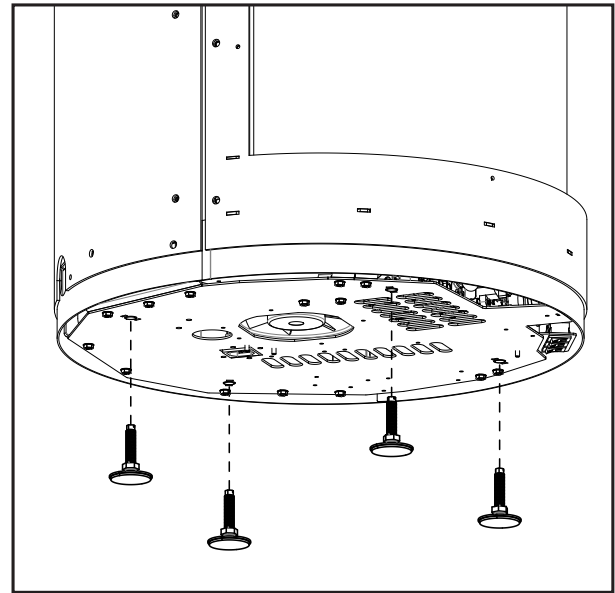

Figure 72: Leveling Leg Removal
Remove the four (4) leveling legs from the bottom of the unit (see Figure 72). These levelling legs will be reinstalled on the pedestal.